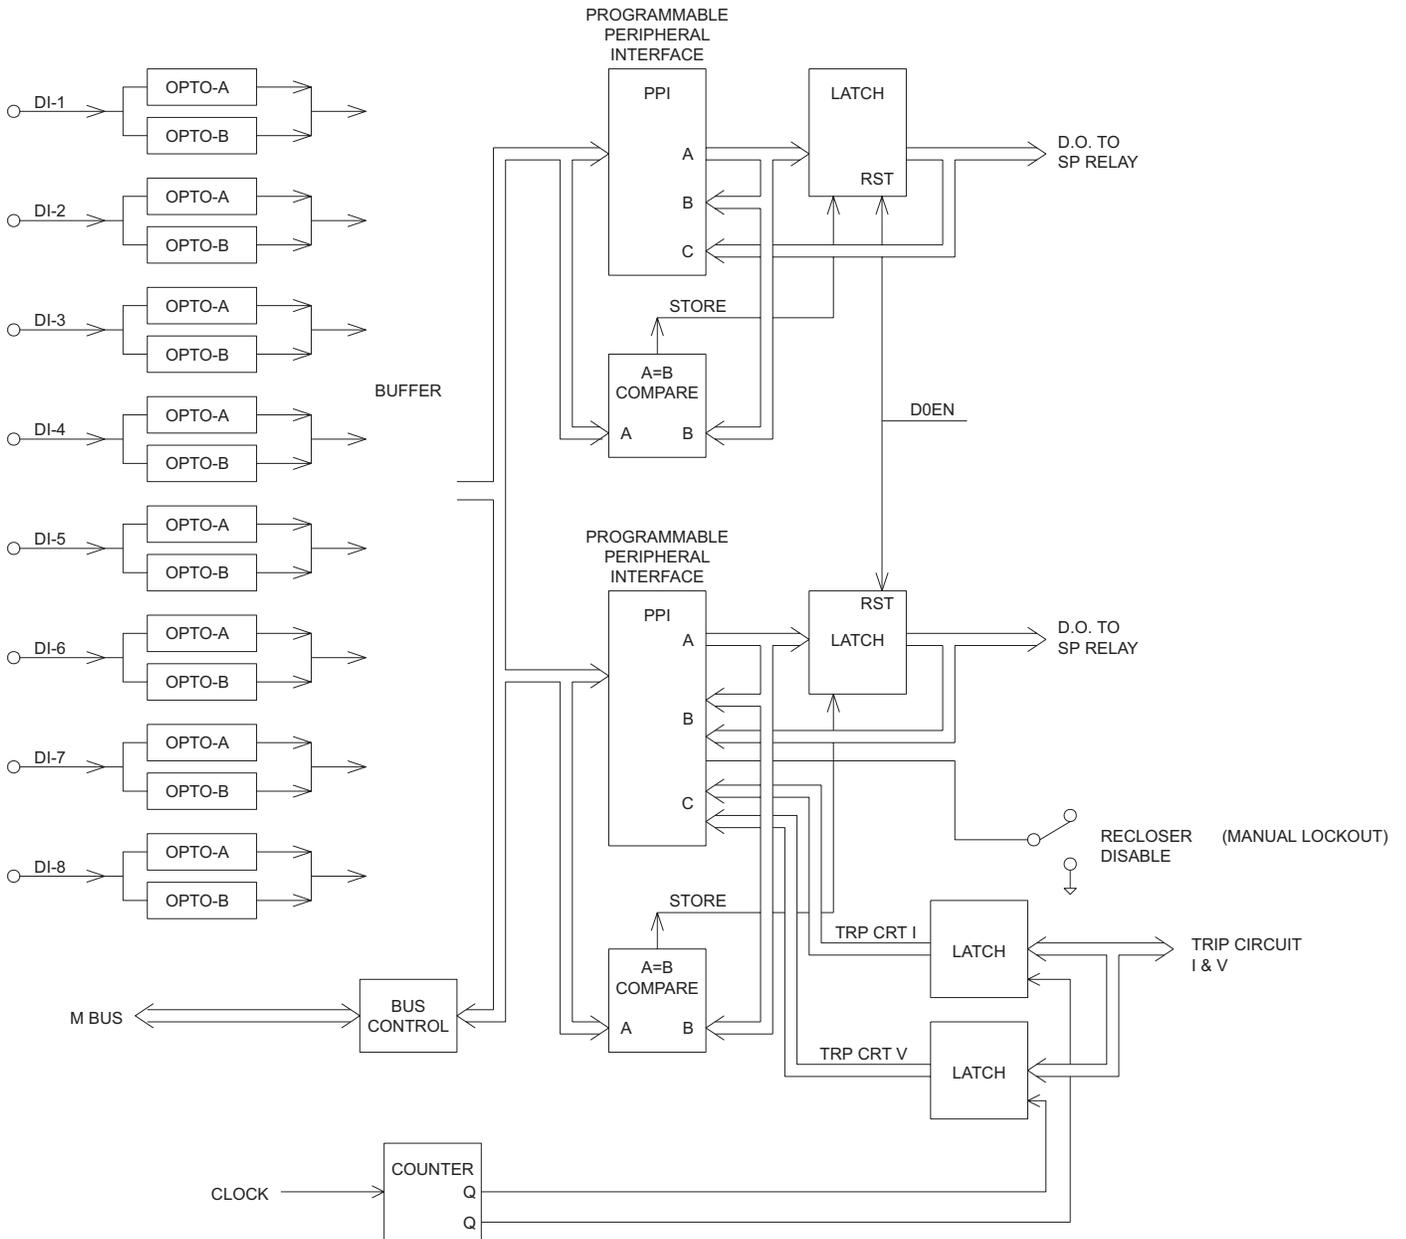

Figure 3-8. (0179C8290 Sh. 4) Block diagram of the SPIO board in the MMI module.
- The SPIO (single-pole input/output) board contains the additional relay driver outputs and isolated contact converter inputs for single-pole tripping and reclosing functions. Additional inputs include trip circuit monitor data from the single-pole relay module. Figure 3-8 is the block diagram of the SPIO.